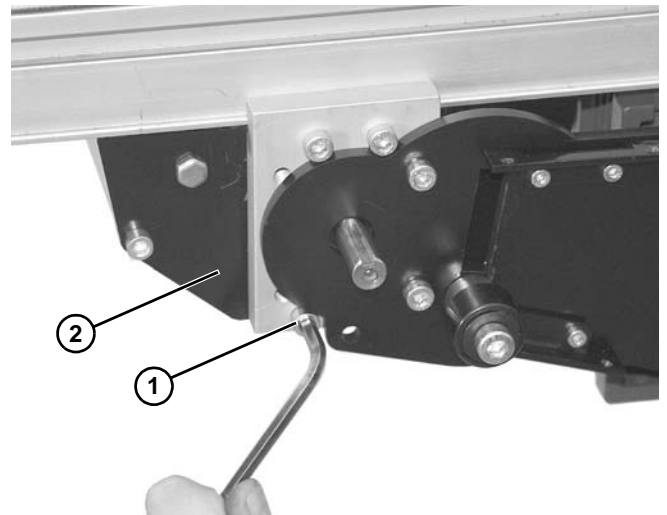

Figure 45
2. Remove two M6x25 socket head screws (**Figure 45, item 1**) from bottom of mid drive assembly (**Figure 45, item 2**).